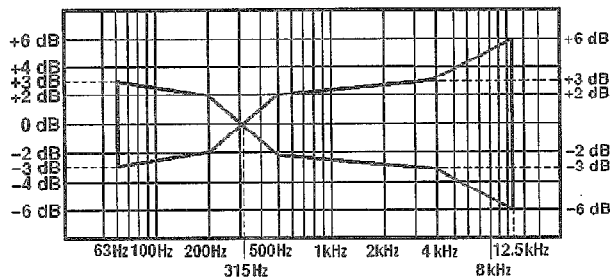

Fig. 11
3. With the output produced at 315 Hz as a standard, check the playback output levels (both L- and R-channels) at the individual frequencies stay within the range shown in Fig. 11.